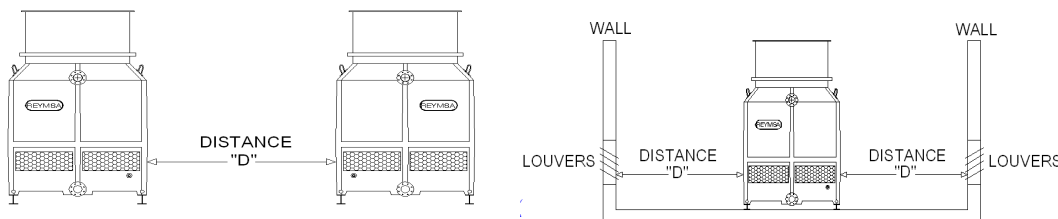

Figure A-1 : Minimum Recommended Distance between Towers and Obstructions
- Make sure that the area provides enough clearance for safe operation. Place towers far enough apart so that discharge air from one tower is not drawn in by another. See Table A-1 and Figure A-1 for recommended minimum distances between towers and between a tower and a wall.